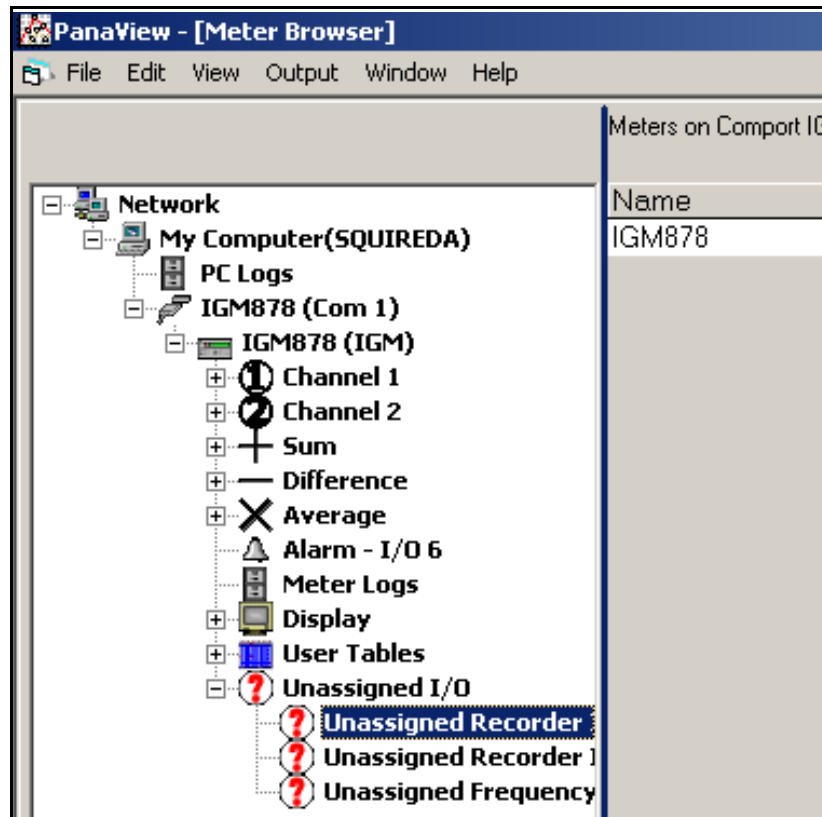

Figure 43: PanaView Meter Browser Menu
With PanaView installed on your computer (see the *PanaView Graphical Interface User's Manual*), you can enter and record the meter information in a number of different ways. The Meter Browser Menu is illustrated in *Figure 43* below.
3. To enter values for Channel 1, click on the + sign before each level to open it (see *Figure 43 on page 56*).